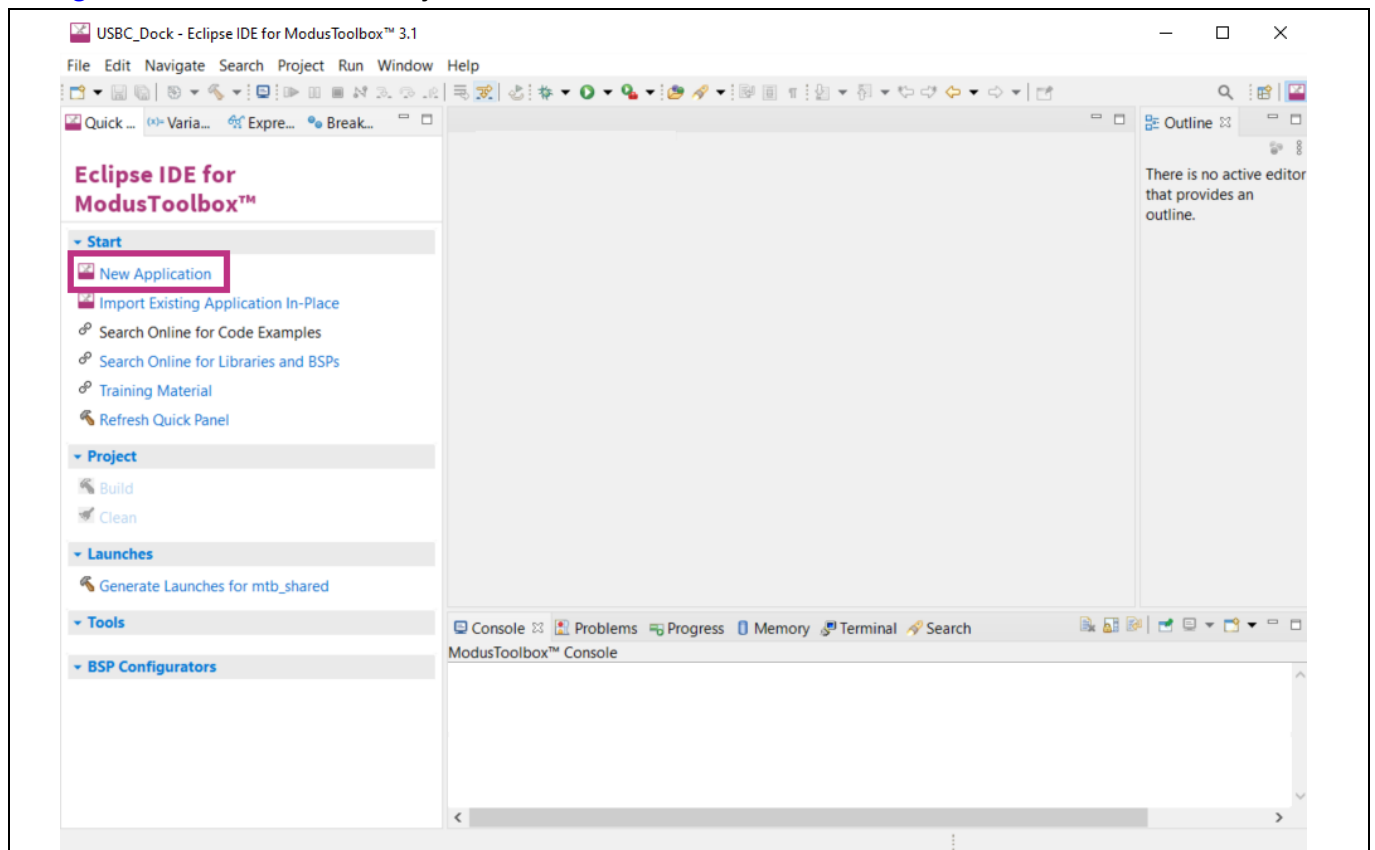

Figure 3 Creating New Application
2. Click **New Application** in the **Quick Panel** (or use **File > New > ModusToolbox™ Application**), as shown in Figure 3. This launches the Project Creator tool.